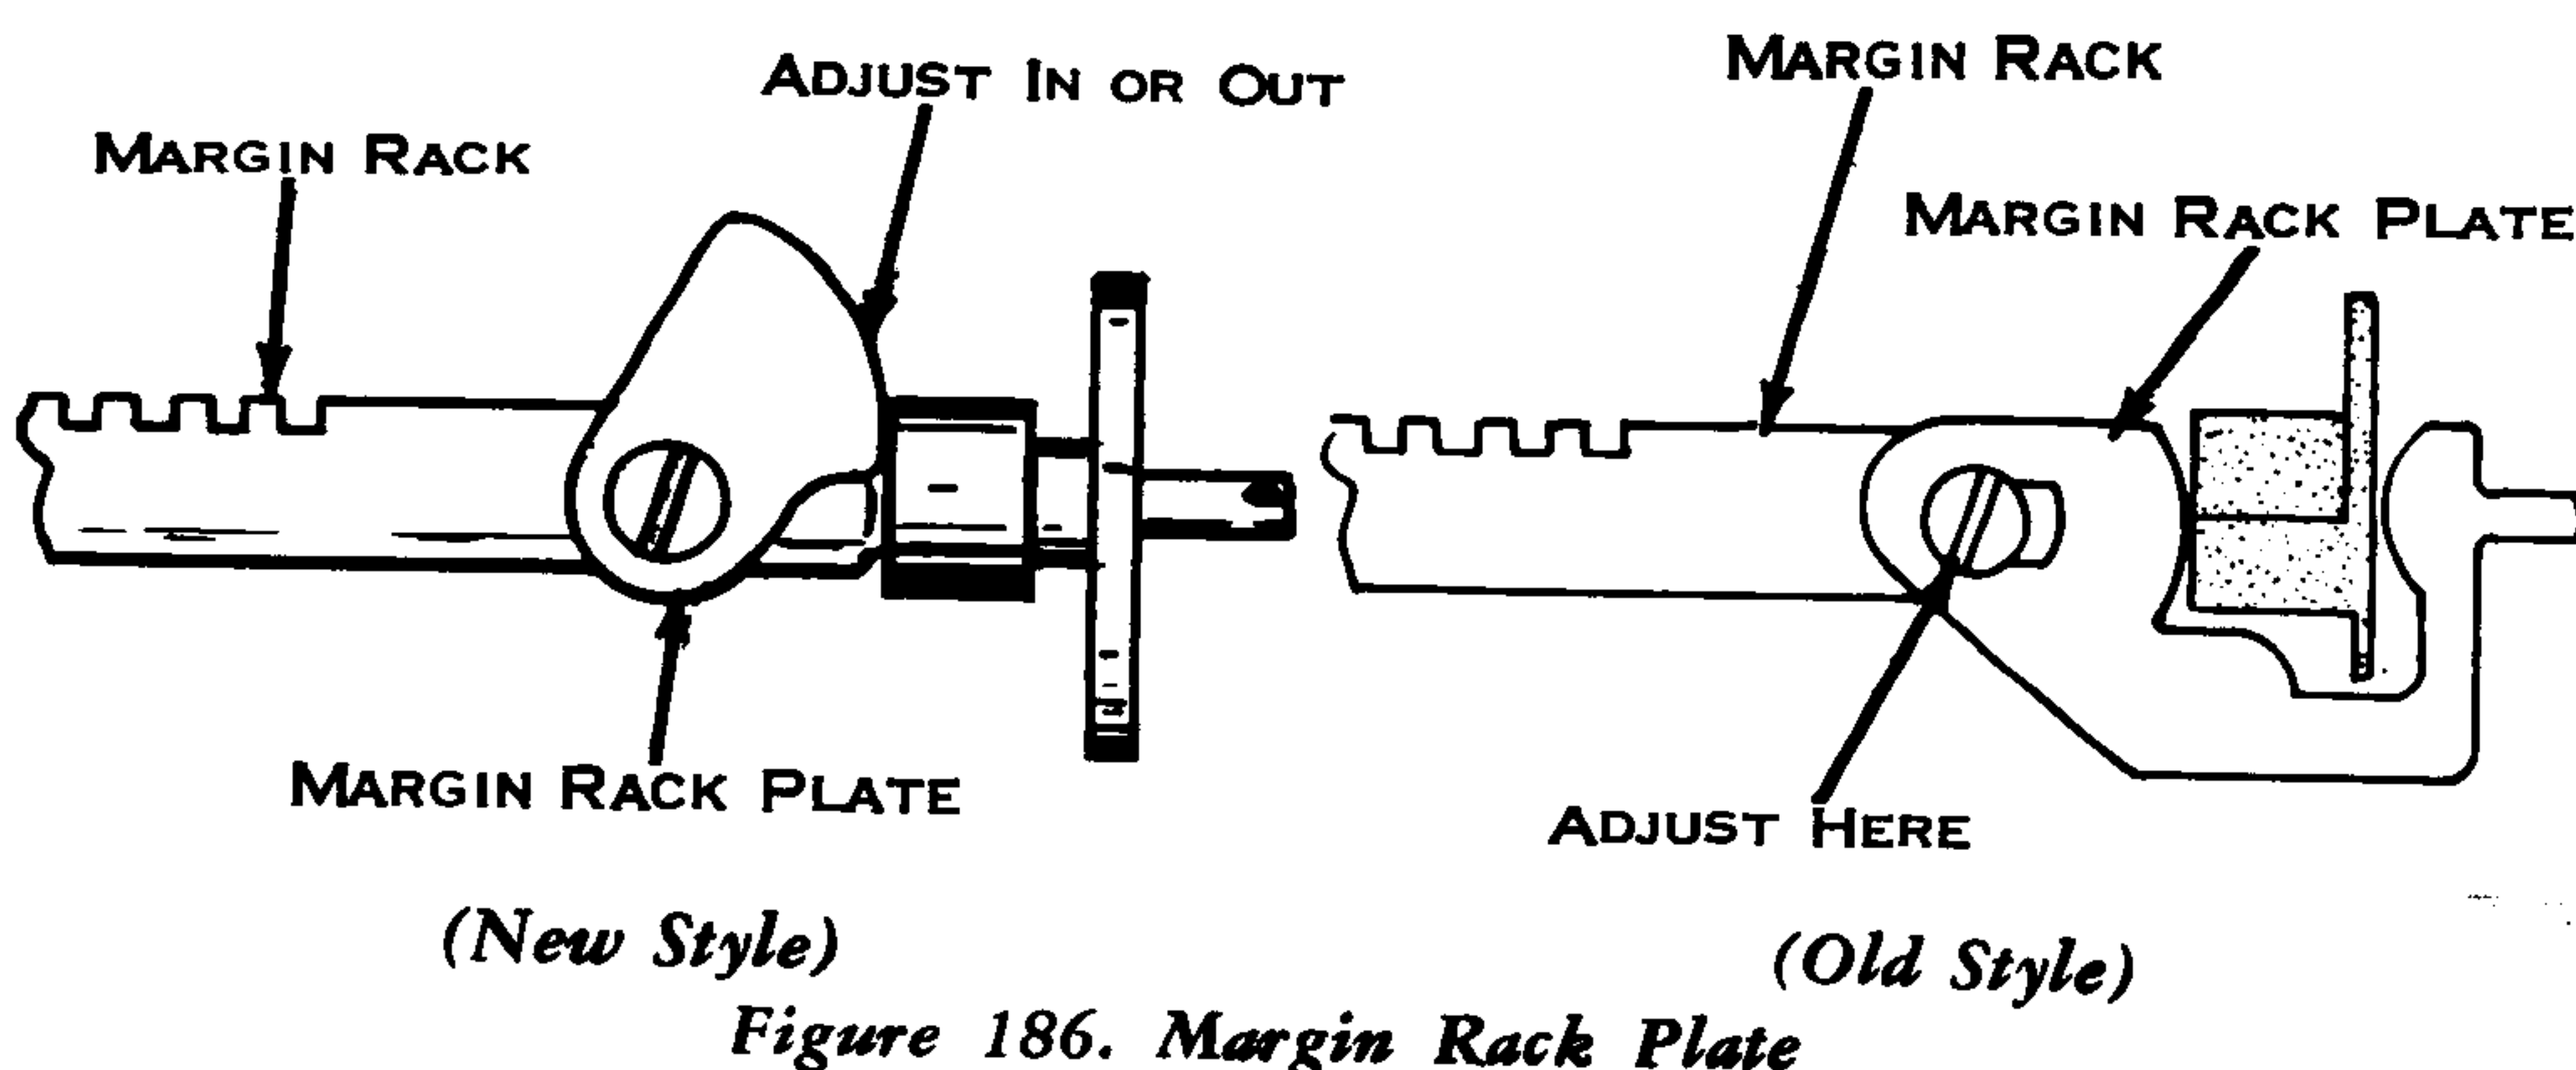
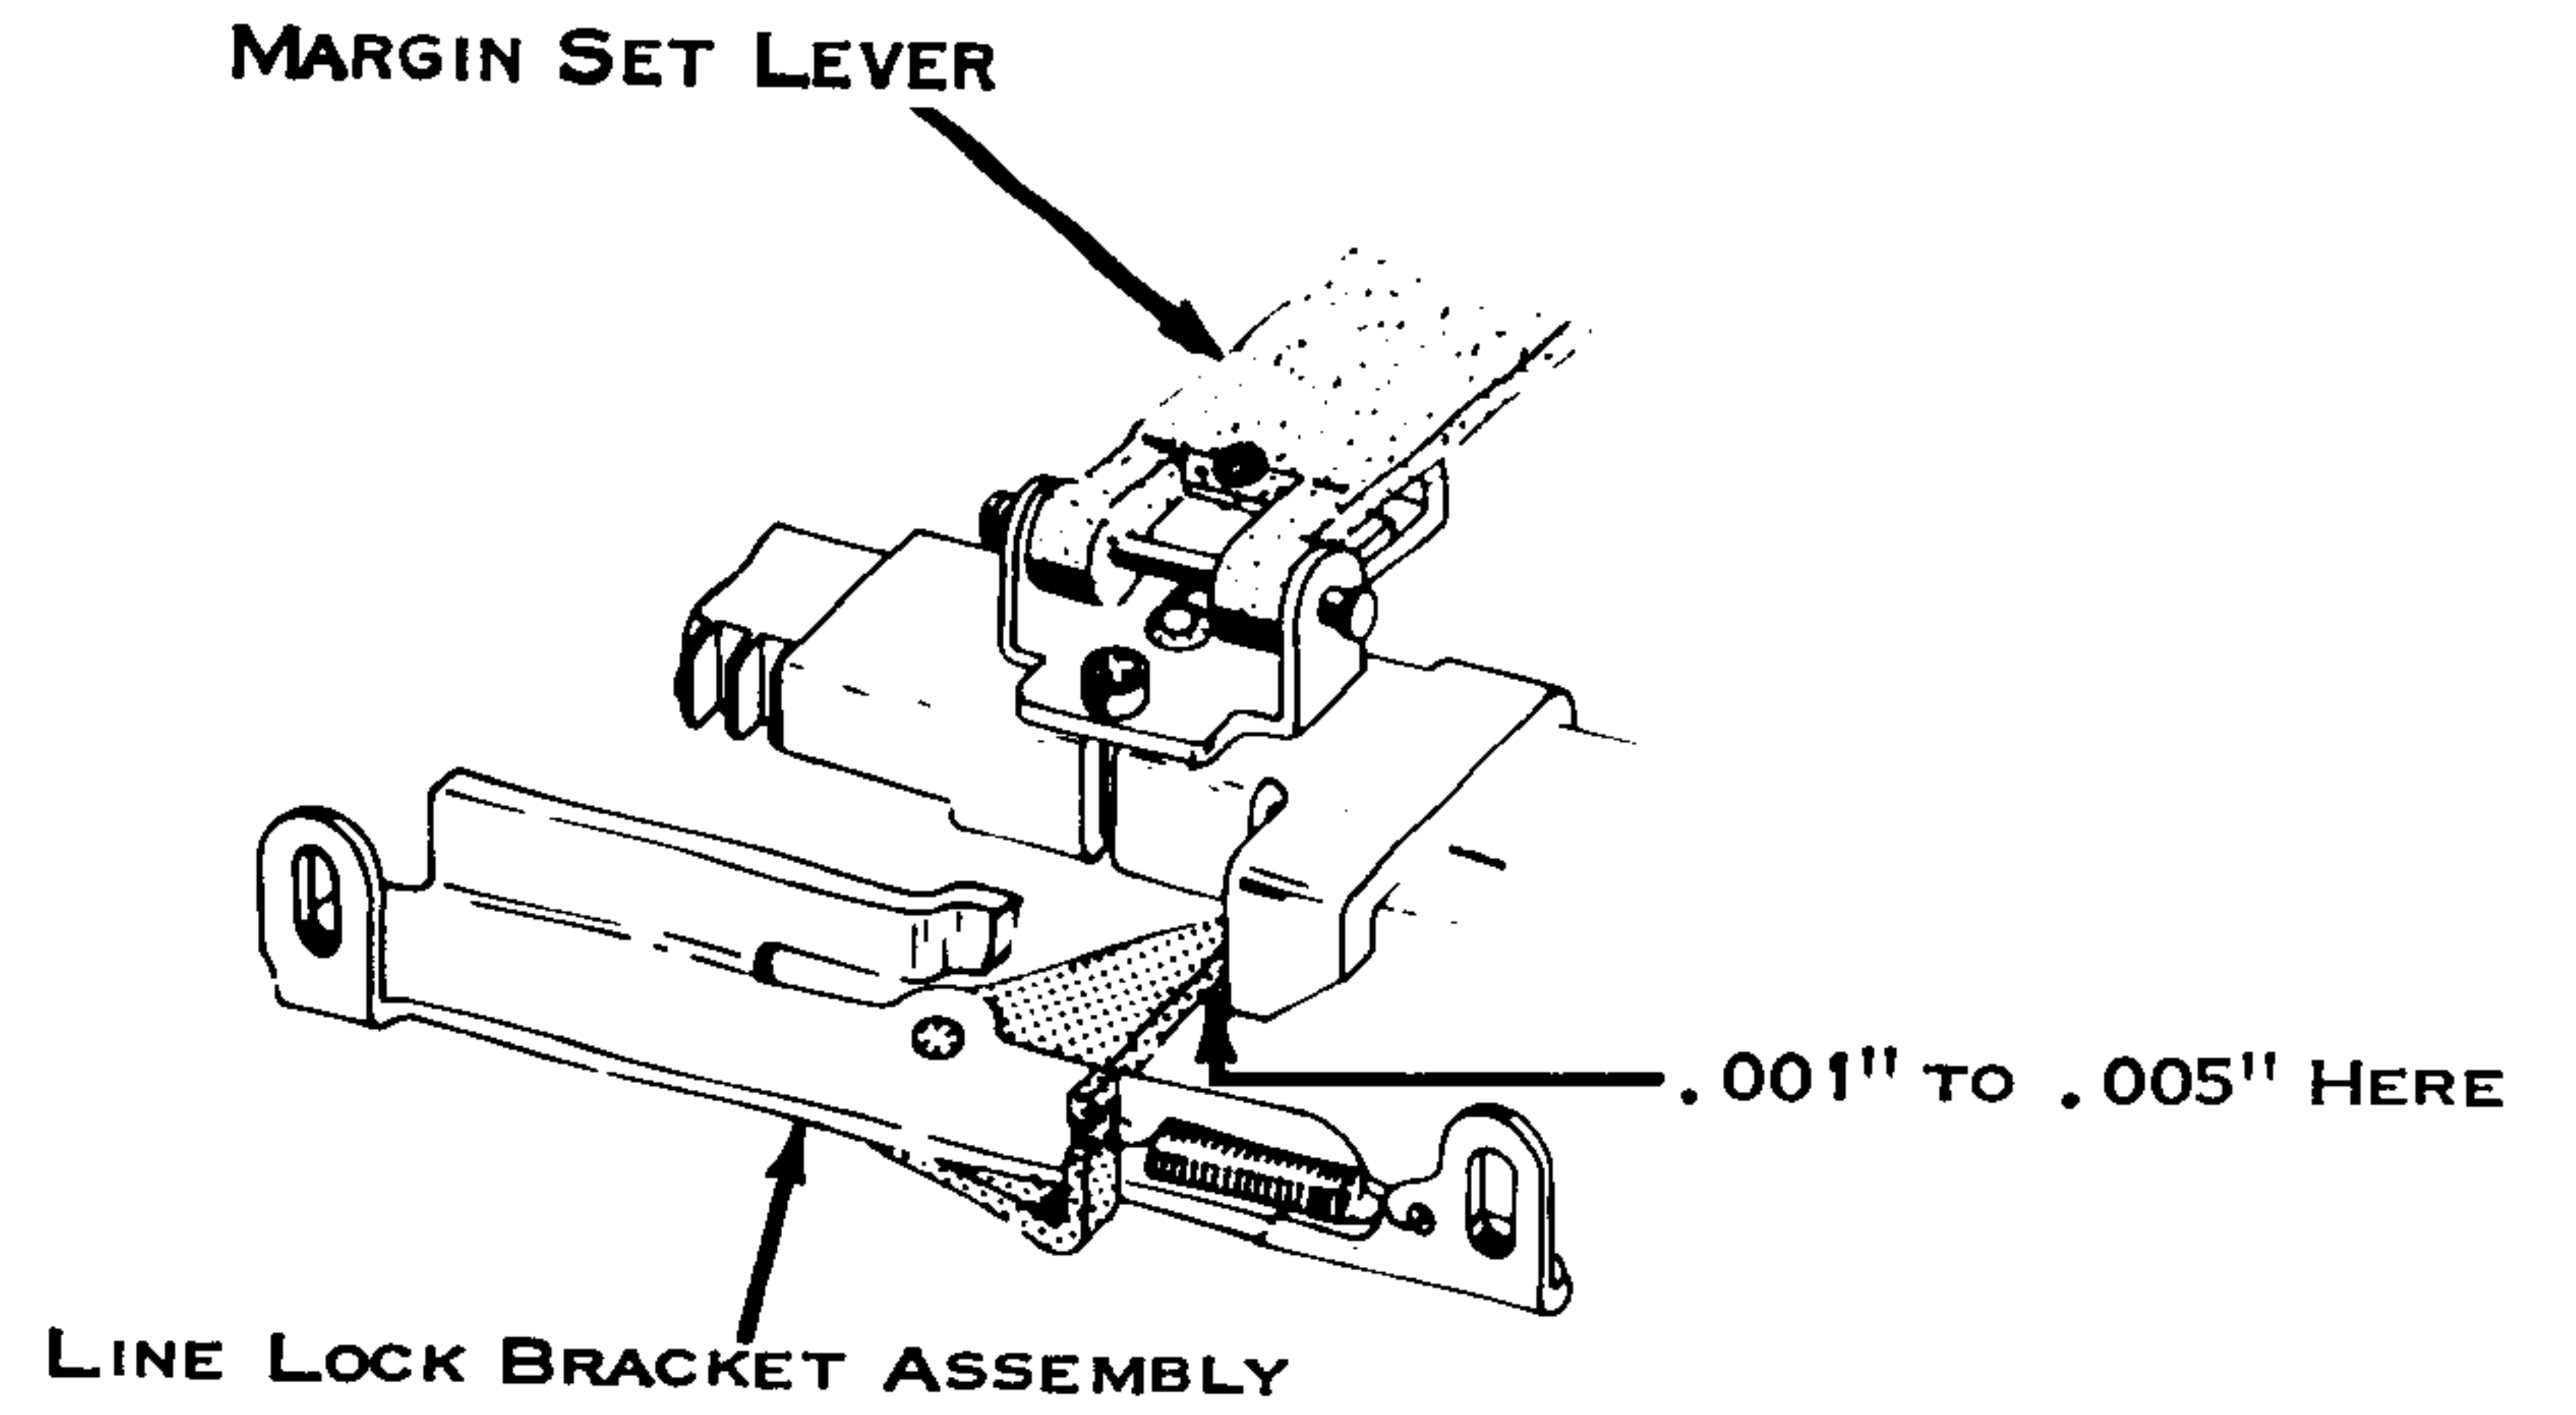

Figure 186. Margin Rack Plate
Figure 187. Adjust Margin Rack Plate For This Condition
NOTE: All machines with the new margin rack plate (Fig. 186) will not require this adjustment.
- Margin Rack Plate (Fig. 186) - The plate on the right end of the margin rack should be adjusted to obtain .001" to .005" clearance between the margin stop and the margin stop latch on the carrier (Fig. 187).